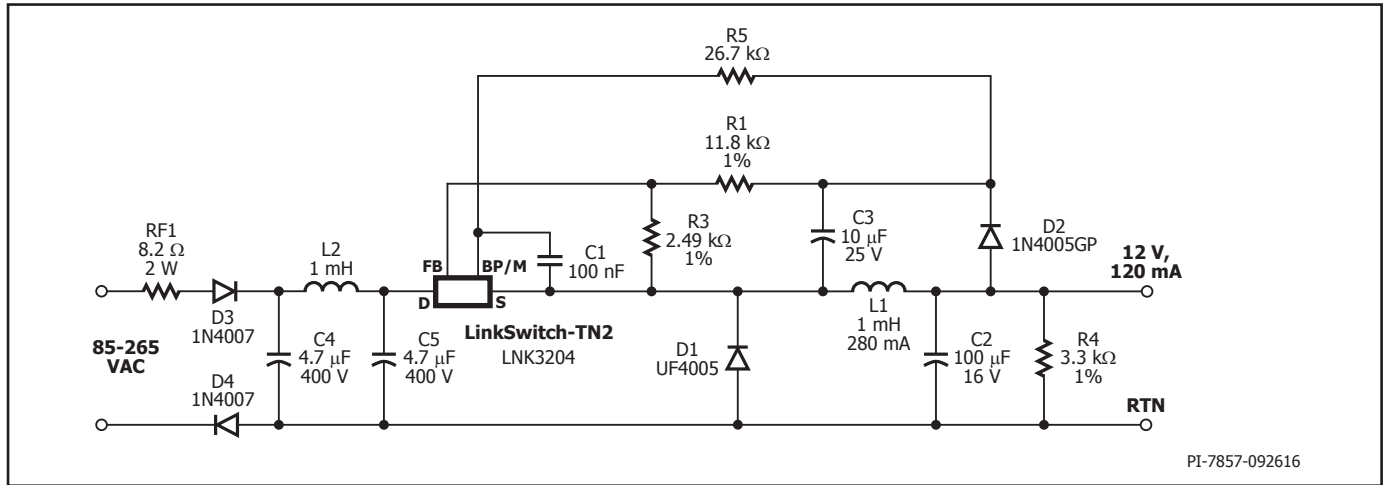
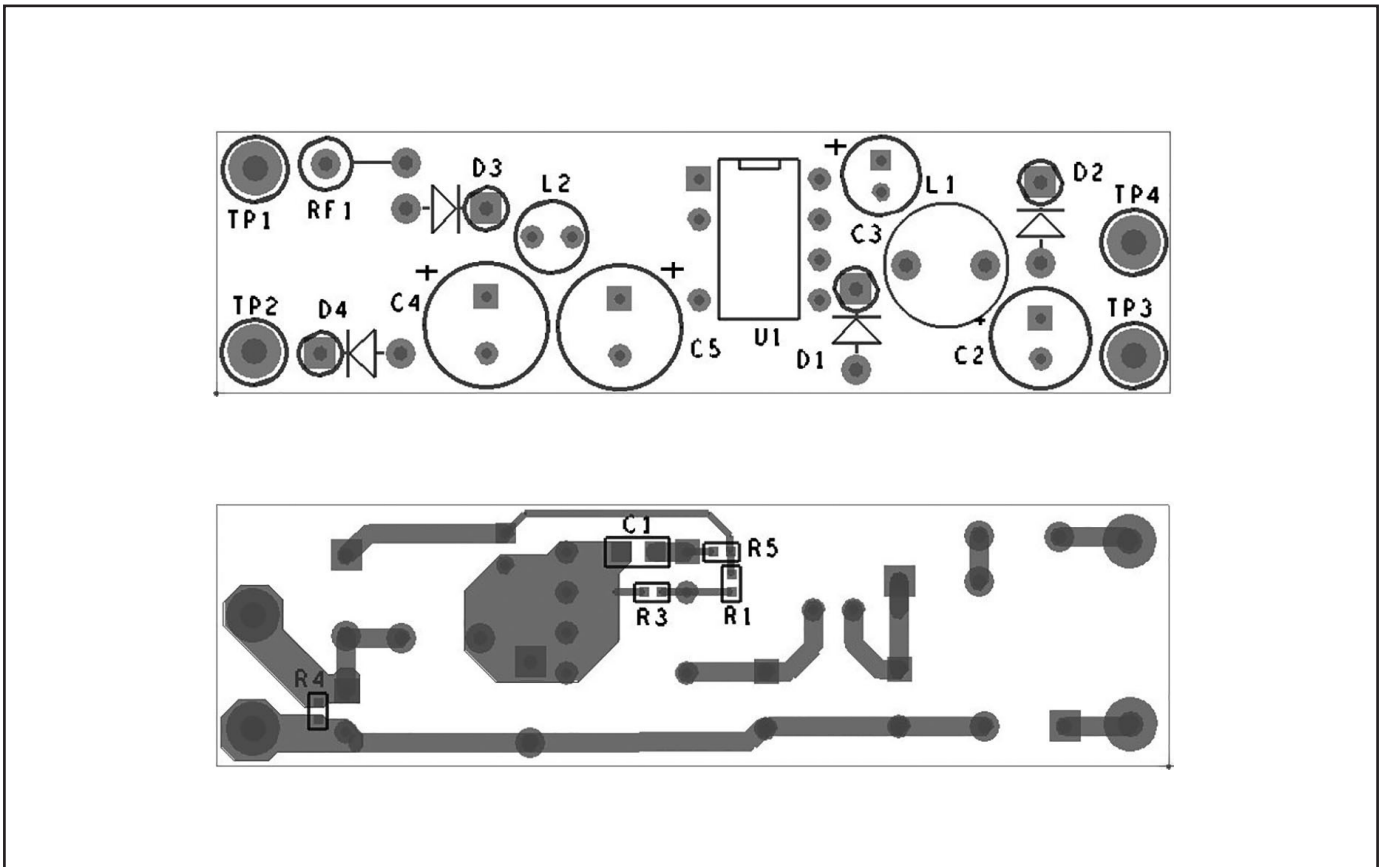

Figure 8. Universal Input, 12 V, 120 mA Constant Voltage Power Supply using LinkSwitch-TN2.
Figure 9a. Recommended Printed Circuit Layout for LinkSwitch-TN2 using P Package.
The circuit shown in Figure 8 is a typical implementation of a 12 V, 120 mA non-isolated power supply used in appliance control such as rice cookers, dishwashers or other white goods. This circuit may also be applicable to other applications such as night-lights, LED drivers, electricity meters, and residential heating controllers, where a non-isolated supply is acceptable.
Regulation is maintained by skipping switching cycles. As the output voltage rises, the current into the FEEDBACK pin will rise. If this exceeds  $I_{FB}$  then subsequent cycles will be skipped until the current reduces below  $I_{FB}$ . Thus, as the output load is reduced, more cycles will be skipped and if the load increases, fewer cycles are skipped. To provide overload protection if no cycles are skipped during a 50 ms period, LinkSwitch-TN2 will enter auto-restart, limiting the average output power to approximately 3% of the maximum overload power. Due to tracking errors between the output voltage and the voltage across C3 at light load or no-load, a small pre-load may be required (R4). For the design in Figure 8, if regulation to zero load is required, then this value should be reduced to 2.4 k $\Omega$ .
Referring to Figure 8, the following considerations may be helpful in selecting components for a LinkSwitch-TN2 design.
Figures 9a, 9b and 9c are printed circuit board layout design examples for the circuit schematic shown in Figure 8. The loop formed between the LinkSwitch-TN2, inductor (L1), freewheeling diode (D1), and output capacitor (C2) should be kept as small as possible. The BYPASS pin capacitor C1 should be located physically close to the SOURCE (S) and BYPASS (BP) pins. To minimize direct coupling from switching nodes, the LinkSwitch-TN2 should be placed away from AC input lines. It may be advantageous to place capacitors C4 and C5 in-between LinkSwitch-TN2 and the AC input. The second rectifier diode D4 is optional, but may be included for better EMI performance and higher line surge withstand capability.